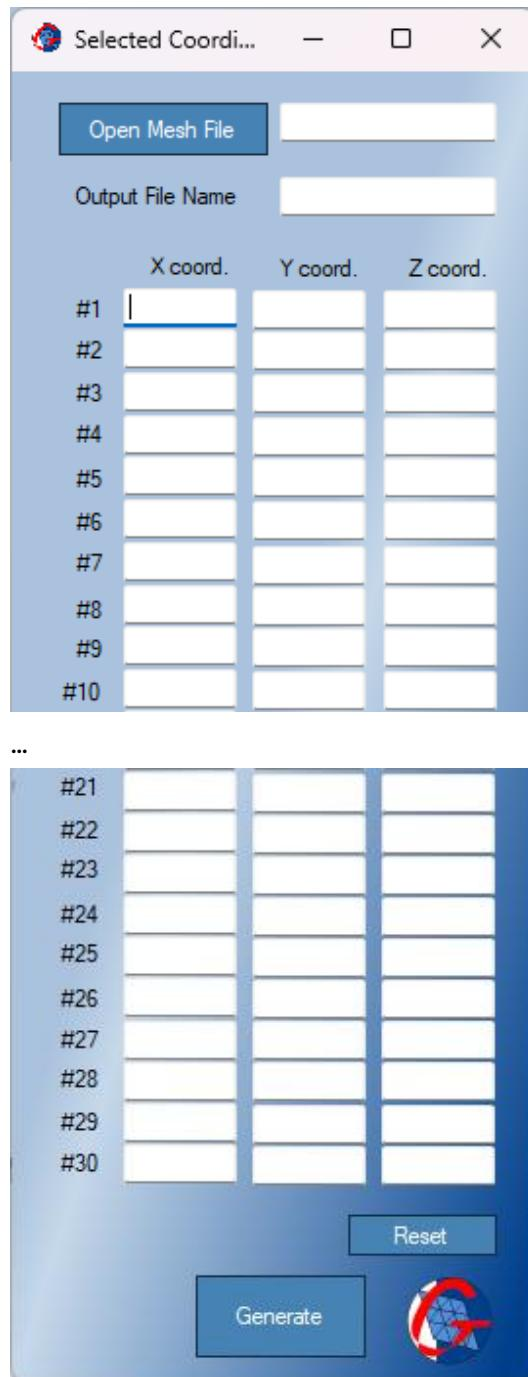

Figure 19: File Menu – Selected Coordinates dialog window.
- **Selected Coordinates:** This option shows the dialog window of Figure 19, for creating a file with selected XYZ coordinates. Coordinates are selected using the render area (Section 7.2).